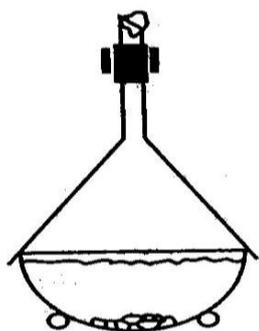

Fig. 5. Device for sublimation at atmospheric pressure.
To sublime a small amount of the substance at atmospheric pressure, it is placed in a porcelain cup and covered with a circle of filter paper with small holes made with a needle. An overturned glass funnel is placed on top, the spout of which is tightly closed with a cotton swab (Fig. 5). The cup is carefully heated. The vapors of the sublimating substance pass through the holes on the filter and condense on the inner walls of the funnel. The partition protects the crystals of the pure substance from falling into the heating zone.
4. An overturned glass funnel is placed on top, the spout of which is tightly closed with a cotton swab (Fig. 5).